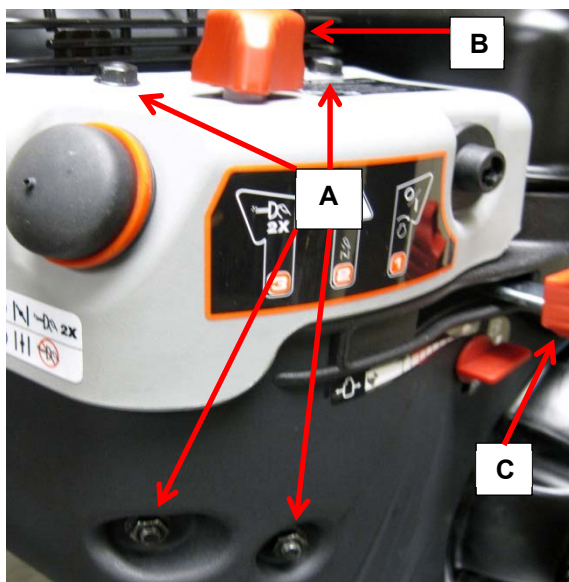

Figure 1
- 1) Remove upper and lower shroud bolts (**A**, Figure 1) using a 10 mm socket.